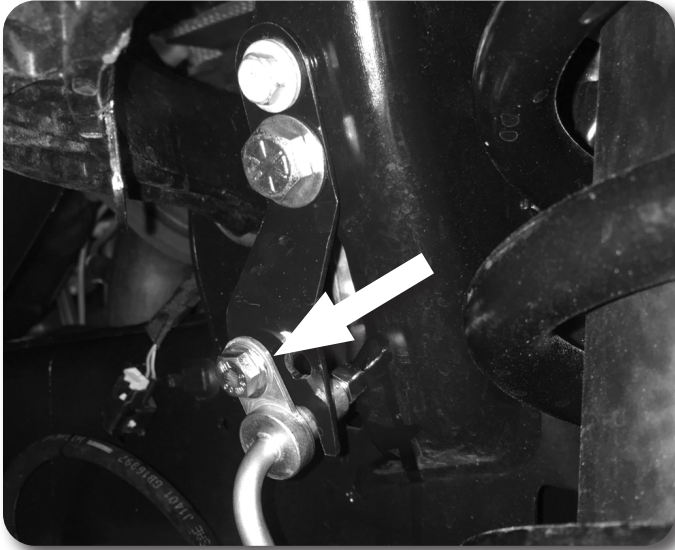

Figure 5
- Carefully reform the hardline to gain additional length. Attach to the relocation bracket with 5/16" x 3/4" bolt, nut, and washers. Torque to 13 ft-lbs. Fig. 5.